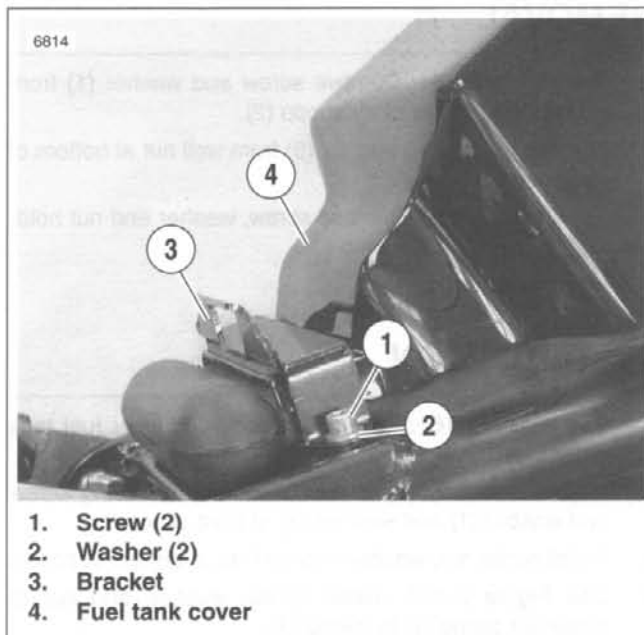

Figure 2-159. Fuel Tank Cover Bracket
2. See Figure 2-159. Remove two fuel tank cover screws (1) and washers (2) from bracket (3). Remove bracket.
4. See Figure 2-159. Install bracket.
- a. Position bracket (3) over fuel tank cover (4). Tab on bracket must face towards rear wheel.
- b. Install two screws (1) and washers (2). Tighten to 9-11 ft-lbs (12.2-14.9 Nm).